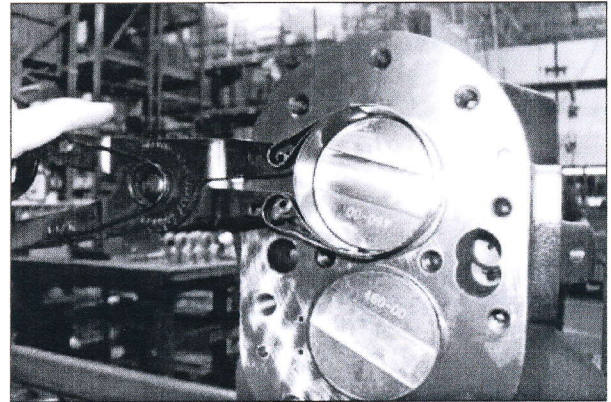

Figure 4
- Rings are compressed and pushed back into cylinder bore as shown in Figure 4.